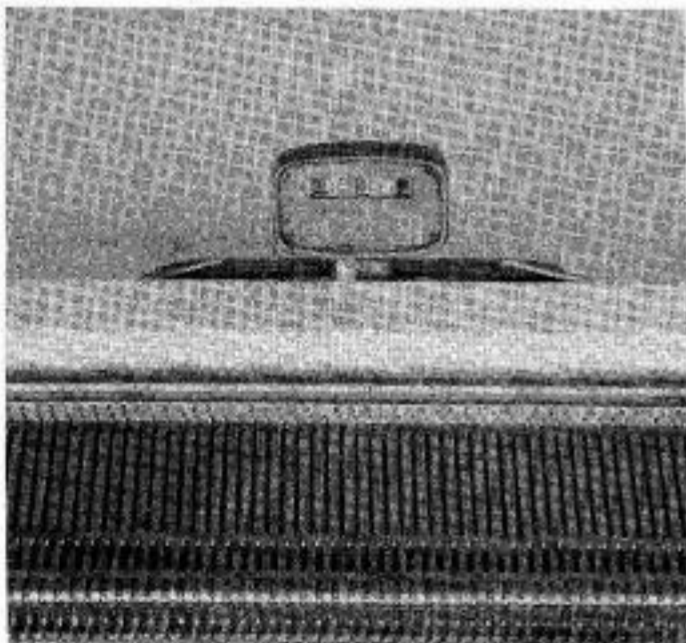

Fig. 4
1. The Row Counter automatically counts the rows as the carriage is moved from side to side with the Row Counter Trip Arm extended. (Figs. 4&5)
These Control Knobs are marked with figures 4, 5, 6, 7, 8, 9 and 10, and **to turn, first depress the knob.** Selection of needles is made with the forefinger by pushing back the required number of needles from Working Position (C) into Position (B). When using these knobs the Pattern Control Knobs (MAS Knobs)—(Fig. 8-1) must always be set at "A".